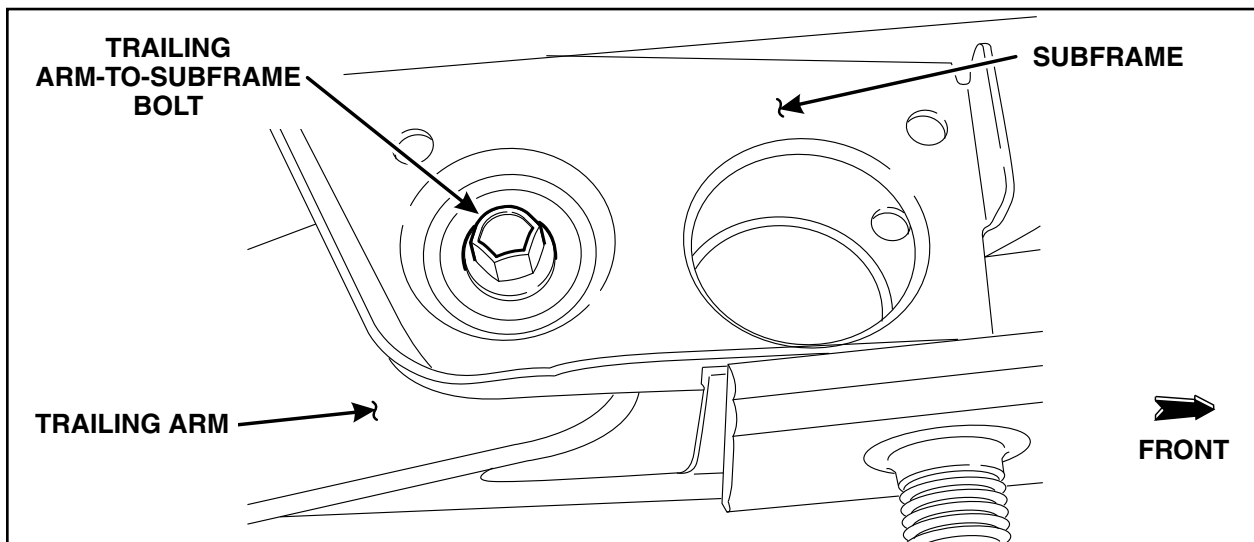

FIGURE 8
9. Remove the trailing arm-to-subframe bolts. See Figure 8.
13. Using a High Lift Transmission Jack 014-00942 or equivalent, raise the rear axle assembly in position and install the trailing arm-to-subframe bolts. See Figure 8.